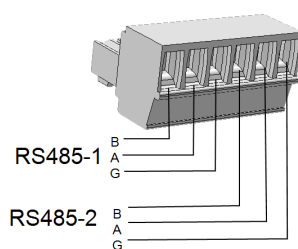

Figure 29: RS485 terminal block
3. Pull out the 6-pin RS485 terminal block connector, as shown in Figure 29.